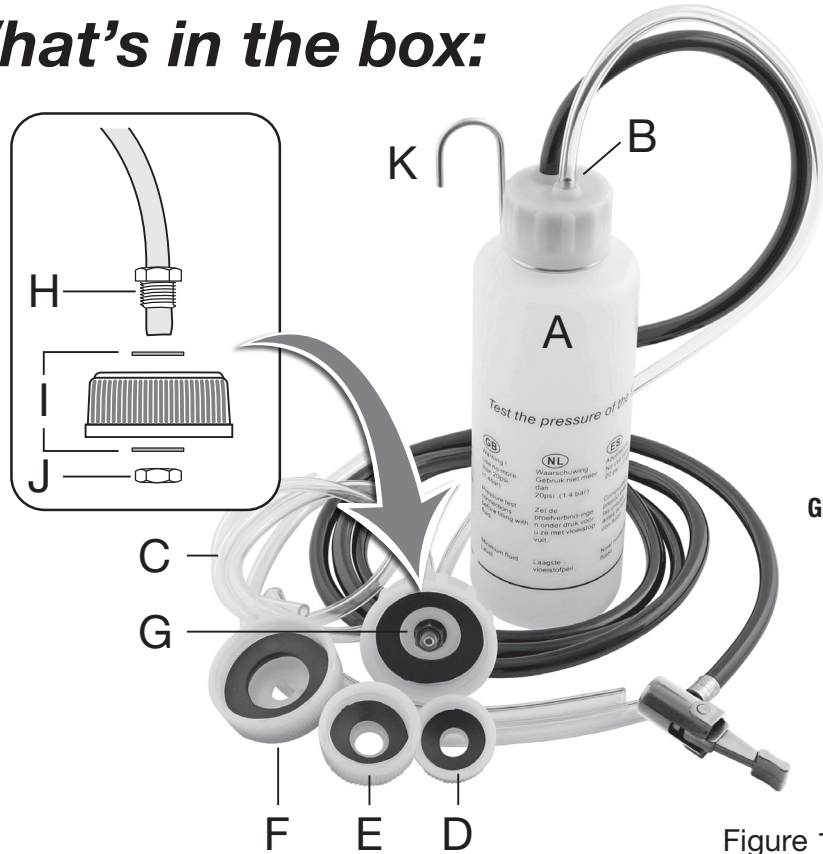

Figure 1
1. Remove the vehicle's reservoir cap, select the appropriate screw cap and connect it to the device as shown in the diagram (Figure 1). Then connect to the reservoir.
- Choose the correct supplied reservoir cap adaptor **D**, **E F**, or **G** (refer to **Figure 1**); the kit is supplied with a selection of reservoir caps which will fit most vehicles with screw-cap type fluid reservoirs. If necessary, the **77042** Multi-purpose cap can be used (not included in the kit — see page 7).